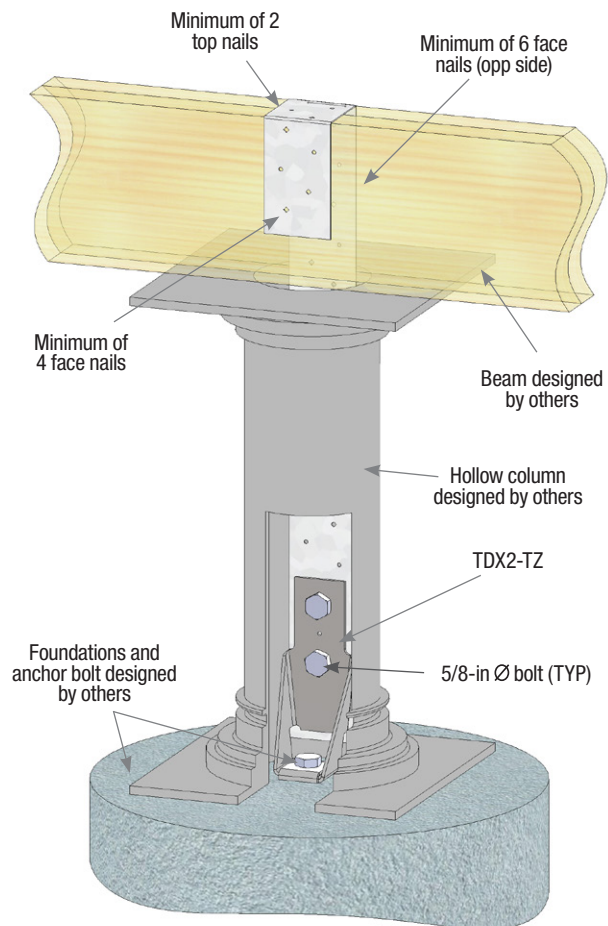

Figure 1
- Cut CMST12 strap to required length to allow for the strap to be bent over the top and down the front side of the beam as shown in Figure 1.
- Drill two (2) 11/16-in Ø holes in strap to match spacing in holddown.